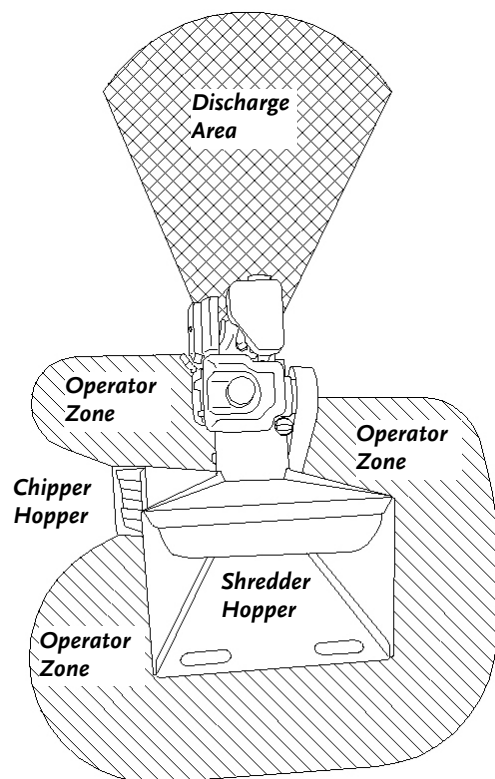

Figure 8
- Remove the Fuel Fill Cap and fill the Fuel Tank with fresh, unleaded gas (with a minimum of 85 Octane) to approximately 1" to 1-1/2" below the top of the Fill Neck to allow for Fuel expansion (**Figure 8**). Be careful not to overfill and reinstall the Fuel Fill Cap before starting the Engine. See your Engine Owner's Manual for more detailed information.
- ALWAYS operate the DR CHIPPER/SHREDDER from the Operator Zones (**Figure 8**).